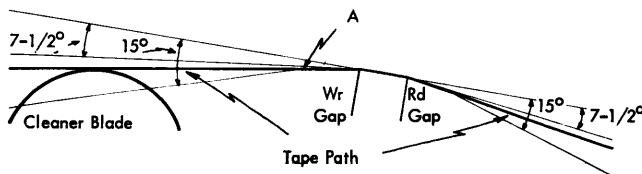

Figure 30. Tape Cleaner Wrap Angle
3. Unload the tape unit and observe the head; the powder will be wiped off the head where the tape has contacted the surface. Visual inspection should show that the apex at point A (Figure 30) has been wiped completely clean, indicating a tape approach of just over 7° .